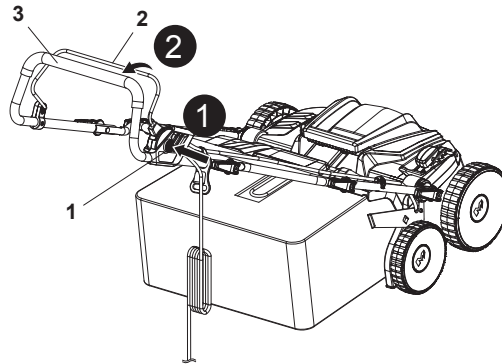

Fig. 13
3. Stand behind the hand grip (3).
4. Press down the lock-off button (1) and hold it in position, then pull the start levers (2) towards the hand grip (3) (Fig. 13, steps 1, 2).
5. After the machine starts, release the lock-off button (1).